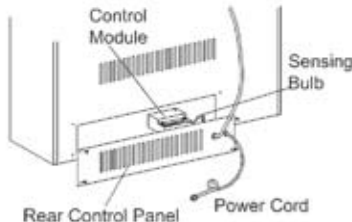
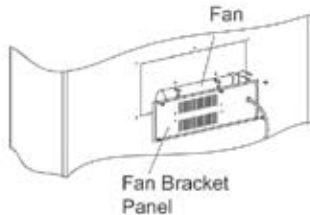
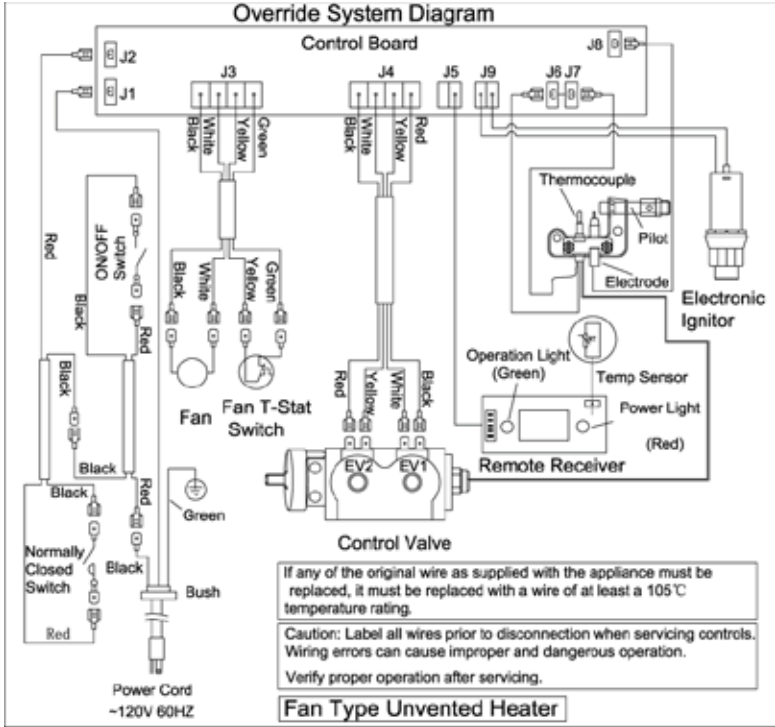

Figure 21 - Control Module Access
Figure 22 - Fan Access
Figure 25 - Override Control System Diagram
2. Remove two screws and hex nuts, securing control module. When installing, reverse the steps above. (See Figure 21 and Figure 25).
2. Mark or tag each wire removed for its exact reconnection. Remove the four screws from the fan. When installing, reverse the steps above. (See Figure 22 and Figure 25)